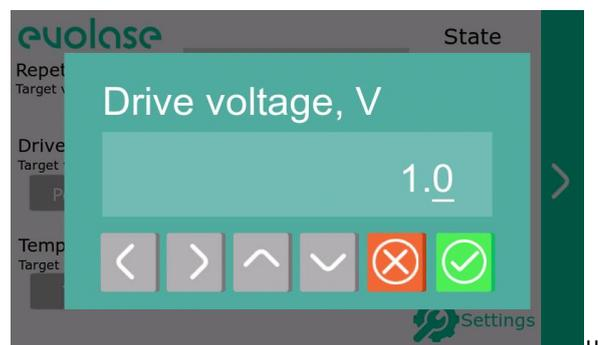

Figure 21 – Driver voltage setting
10. Tap on driver voltage value to set the laser diode operating voltage (fig. 21). Use the left and right arrows to select the digit to change, use the up and down arrows to change the value. Press button to save the changes and exit menu. Press button to exit menu without changes.